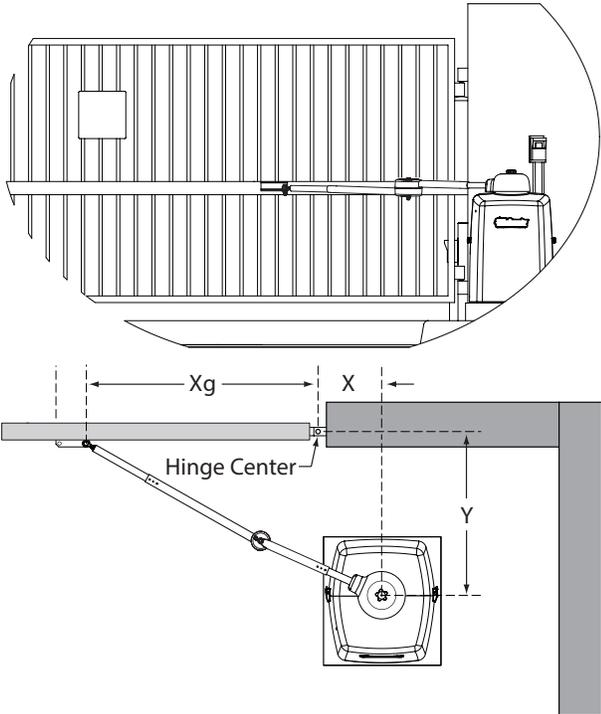

Figure 6. Installing the Gate Bracket
2. Determine the proper position of the gate bracket. Use Figure 6 and Table 2 for reference. **Hint:** Determine if you have a short, medium, or long gate. If the X and Y dimensions in the chart are the same as your install, set the gate bracket at the Xg dimension. If your install does not fit to the chart specs, use the Custom Gate Installation formula to determine the proper gate bracket placement.